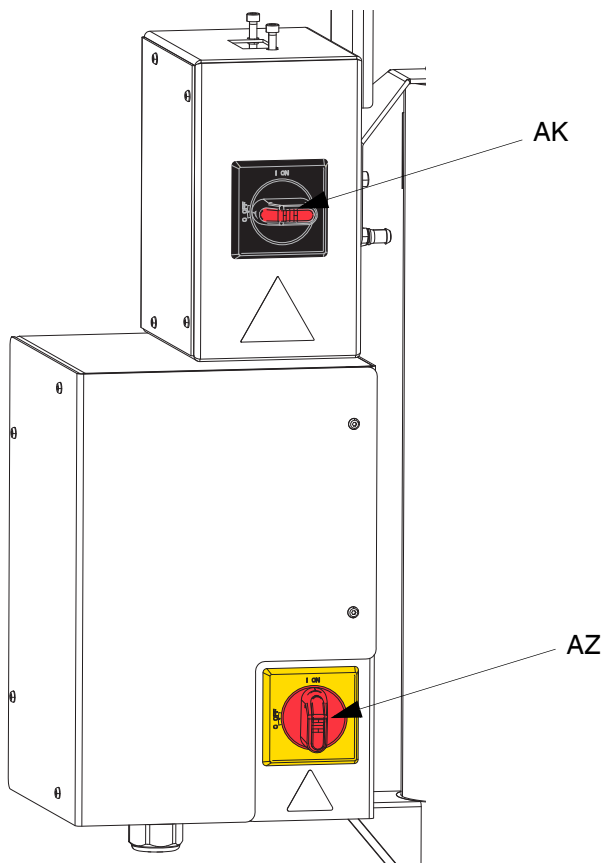
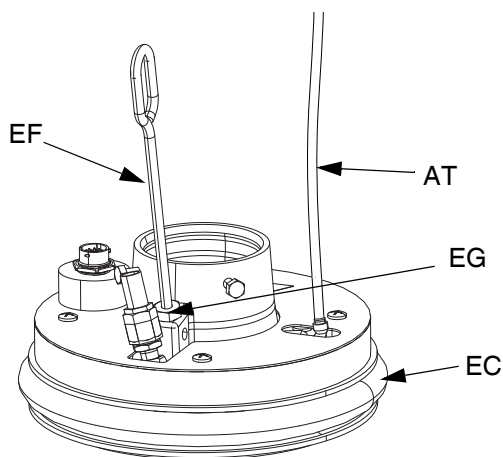

FIG. 35. Power Disconnect
FIG. 38
If the Platen (AD) does not come out of the pail easily when the Pump is being raised, the air assist tube (AT) or check valve (416) may be plugged. A plugged valve prevents air from reaching the underside of the plate to assist in raising it from the pail. See FIG. 38 on page 42.
1. Turn off power to the Electric Driver (AB):
- a. If using an ambient Single Ram Supply System, turn the red Disconnect Switch (AZ) OFF. See FIG. 35.
- b. If using a heated Single Ram Supply System, turn the black Power Junction Box Switch (AK) OFF. See FIG. 35.
- c. If using an ambient Tandem Ram Supply System, turn the red Power Junction Box Switch (AK) OFF on the Ram Supply Unit that requires a drum change only. See FIG. 35.
- d. If using a heated Tandem Ram Supply System, turn the black Disconnect Switch (AZ) OFF on the Ram Supply Unit that requires a drum change only. See FIG. 35.